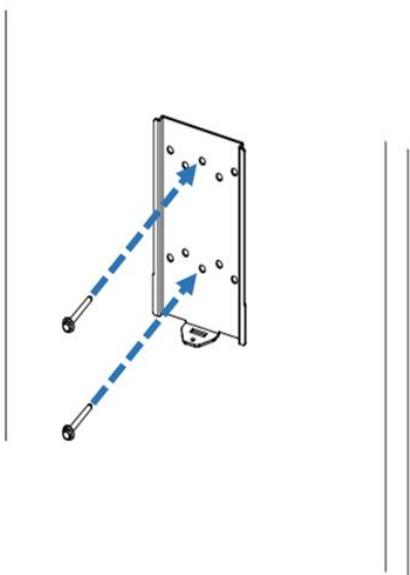

Figure 2-1 Installing the mounting bracket
3. The mounting bracket has ten screw holes to support attachment to multiple mounting surfaces. For most installation, including attached the charging station to a single wall stud, only two screws will be used to attach the mounting bracket. In this case, the screws should pass (install) through the middle two vertical screw holes of the mounting bracket as shown in Figures 2-1 & 2-2.